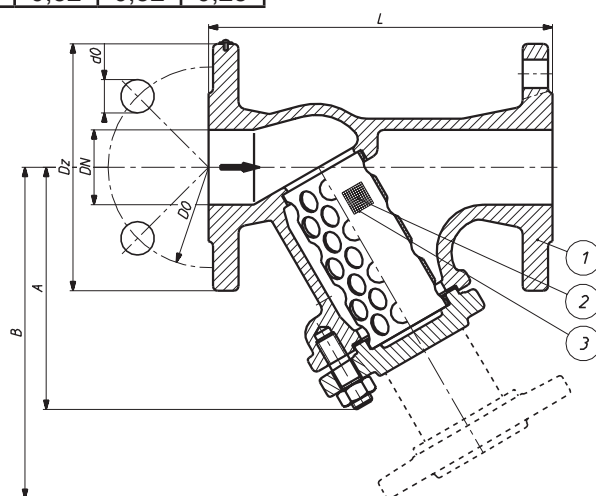

Fig. 1 Design and dimensions of the strainer
Strainers incorporate the following major components (Fig. 1): body (1), strainer insert (of mesh type) (2) and strainer cover (3). The upper part of the cylindrically wound insert, is introduced into the strainer body whereas its lower part rests on the strainer cover that acts simultaneously as a dirt trap. Both bodies and covers of the strainers are made of grey or spheroidal iron. The inserts (of mesh type) represent a unit that is composed of an enclosure, made of stainless steel and a mesh, weaved of stainless steel wires.
The strainers should be installed on a horizontal section of pipeline, flow direction must match the arrow on the strainer body. Installation on a vertical pipeline is allowed, when the handled fluid flows downwards. For DN200 its possible to produce PN10 (n=8, do=22) acc. to fig. 1.